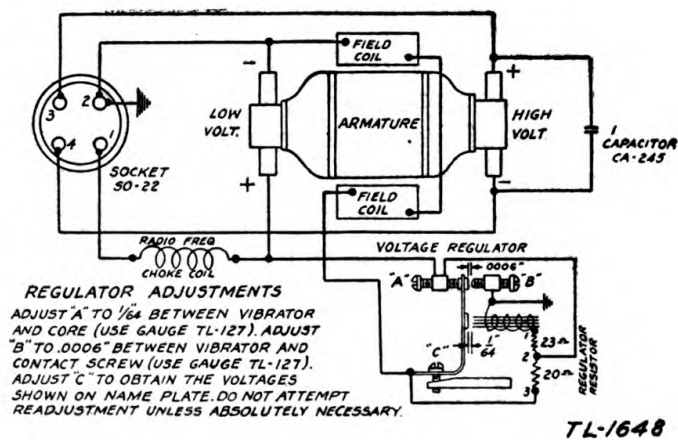

FIGURE 30.—Generator GN-37, circuit diagram.
17. Generator GN-37 (fig. 30).—The generator is shunt wound, and the armature has two windings to provide both filament and plate power for transmitting. The voltage, both for filaments and plates, is automatically controlled by the regulator in the generator. The field exciting current is supplied from the low voltage windings through the voltage regulator, which functions as follows: When the voltage output is low, current is furnished the field on the following path: positive brush (+) to screw A, then to screw C through the field to the negative brush (-), which is grounded. Current can also flow from A to terminal 2 on the regulator resistance through 23 ohms, through the regulator relay windings to B, to ground. As the
c. The gage TL-127 is provided with the generator in order to measure the regulator clearances for proper adjustment. Such adjustment should be made only when absolutely necessary and then only by qualified depot repair personnel in the following manner (fig. 30): Loosen both small locking screws which lock screws A and B. Back off screw B so that the $\frac{1}{64}$ -inch end of the gage may be inserted between the core and the vibrator. Screw up on screw A until the vibrator to core clearance is adjusted to $\frac{1}{64}$ inch. Leave screw A in place and insert the 0.0006-inch end of the gage between the armature contact and screw B; then screw up B for an easy slip fit. Lock screws A and B with their respective locking screws and then proceed to adjust the voltages by screw C so as to obtain 8 to 8.25 volts and 485 to 515 volts while furnishing power to the set. Turning screw C clockwise raises the generated voltages.